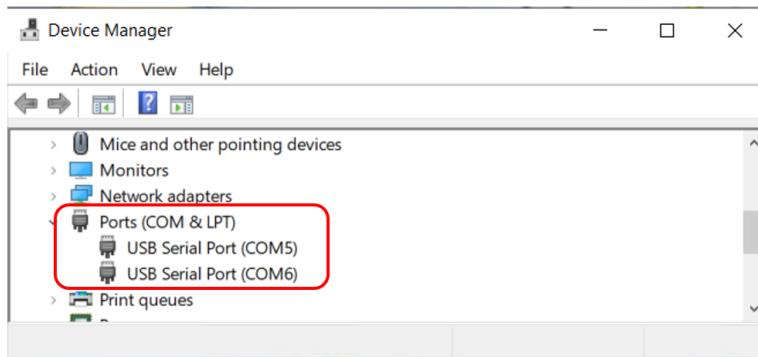

Figure 7.34: Device Manager COM Ports
11. Open the PuTTY terminals to see the output. You will need a terminal emulator such as PuTTY that talks directly to COM ports in order to see output of the serial port. To find out the two COM ports, open up the device manager and expand the Ports (COM & LPT) line (see Figure 7.34).